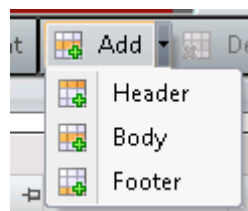

Figure 6-92. Add rows for Sample Definition
5. In the Toolbar of the Template, click  to open the drop-down menu, see Figure 6-92.